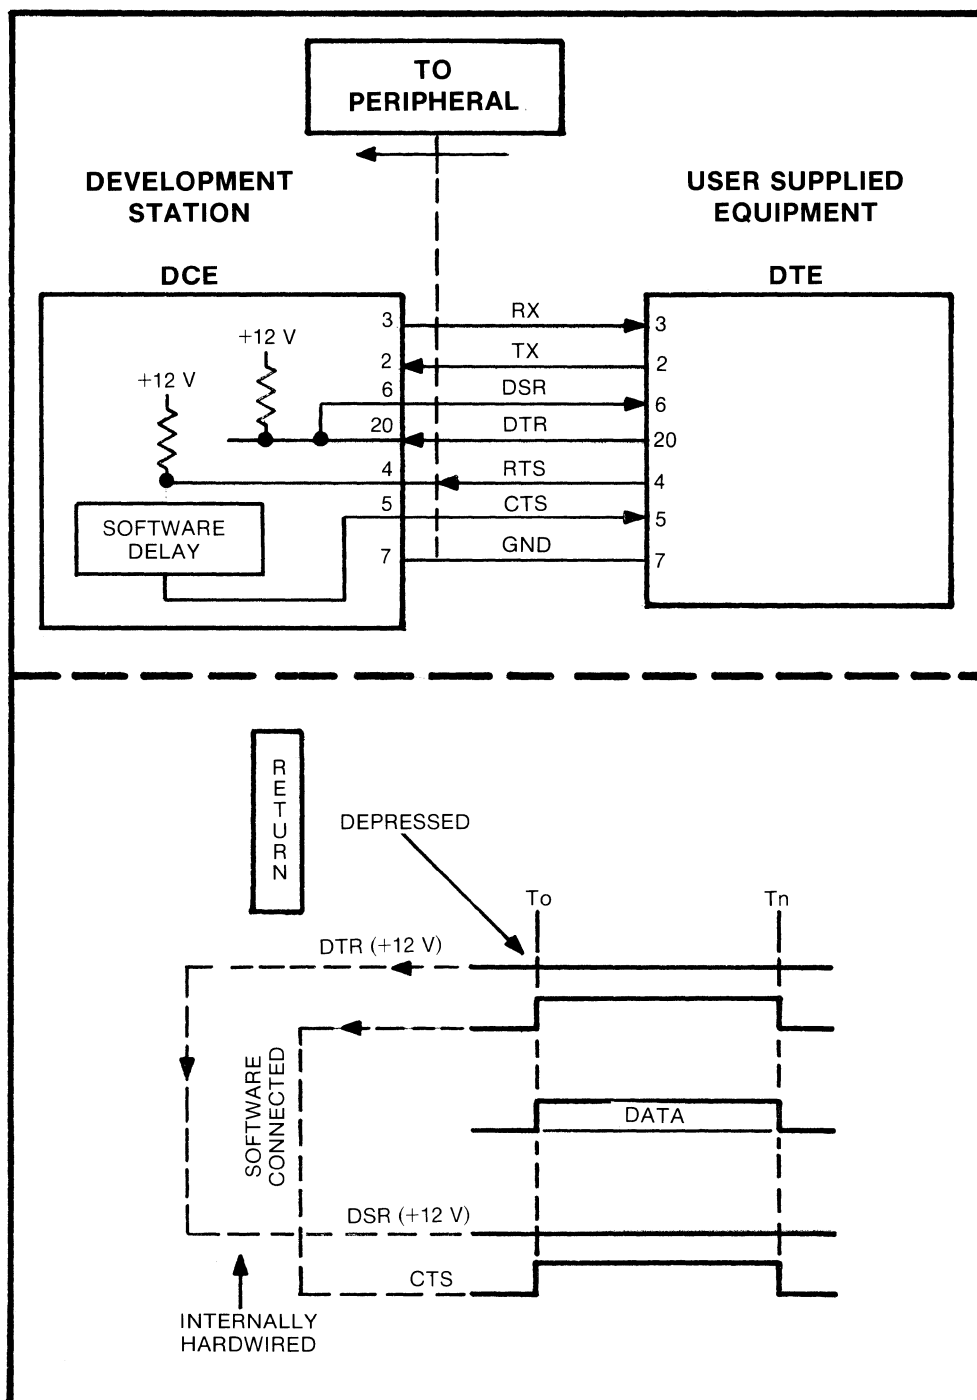

Figure 8-10. Modem as Listener
4. Mainframe as "modem listener" (figure 8-10)